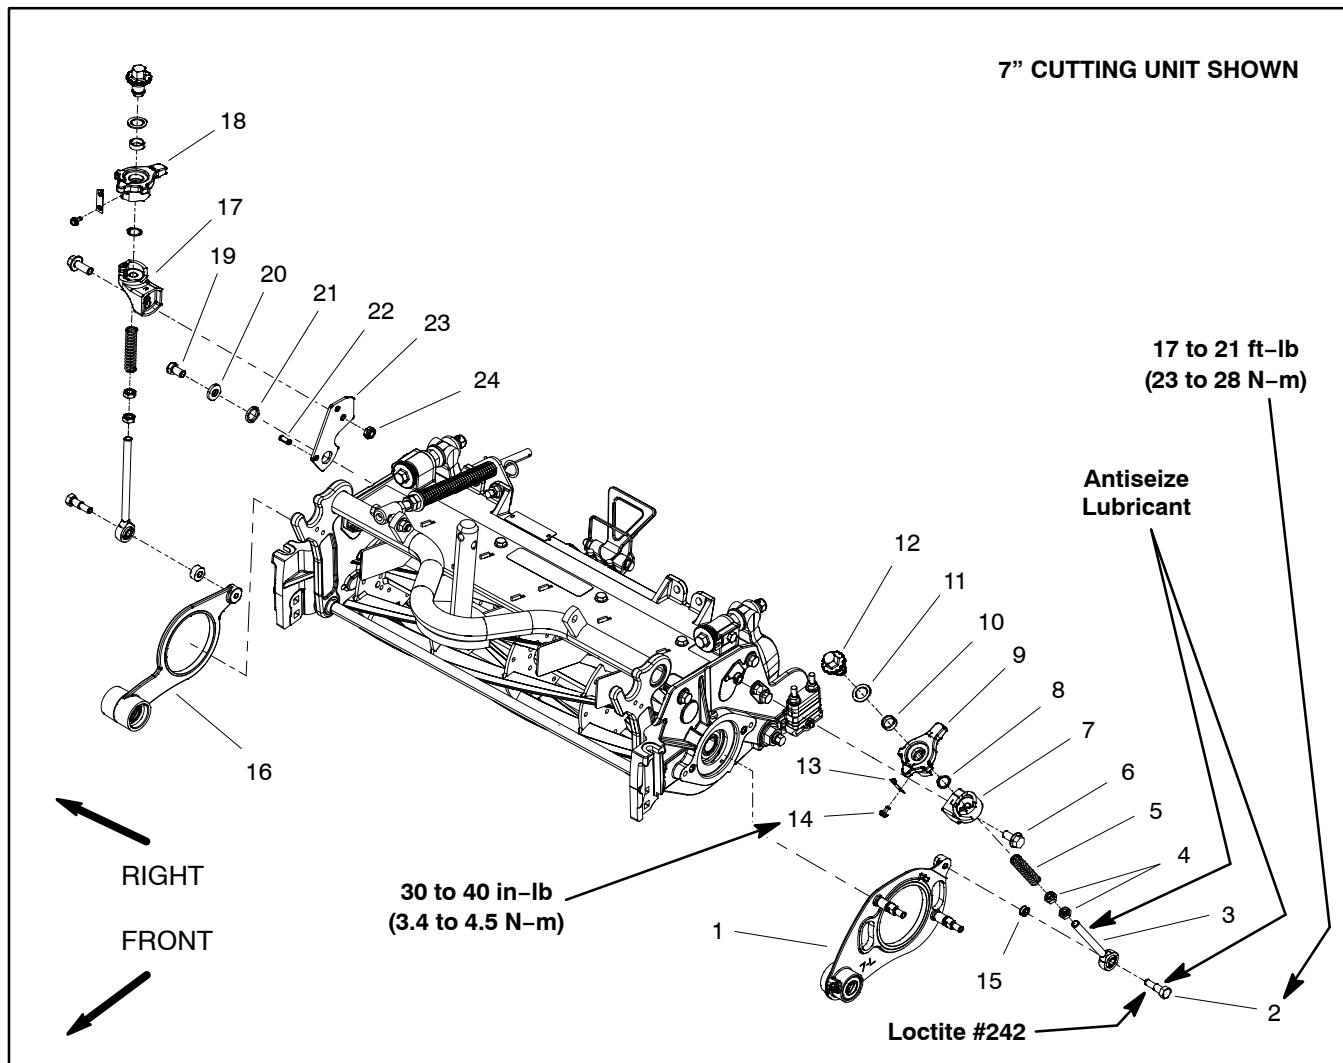

Figure 20
NOTE: The groomer reel drive is located on the opposite side of the cutting unit from the cutting reel hydraulic motor. Figure 20 shows components used when the groomer reel drive is on the left side of the cutting unit.
Disassembly (Fig. 20)
3. Disassemble height adjuster as needed using Figure 20 as a guide.
Assembly (Fig. 20)
1. Assemble height adjuster using Figure 20 as a guide noting the following items: